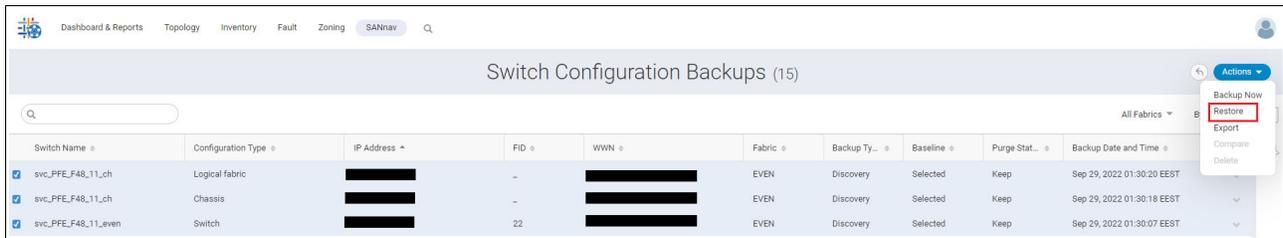

Figure 5-17 Restoring a backup
- a. Select the chassis, logical fabric, and switch configurations whose configuration you want to restore, and click **Restore** from the **Actions** menu. The Restore Switch Configurations window opens, as shown in Figure 5-17.